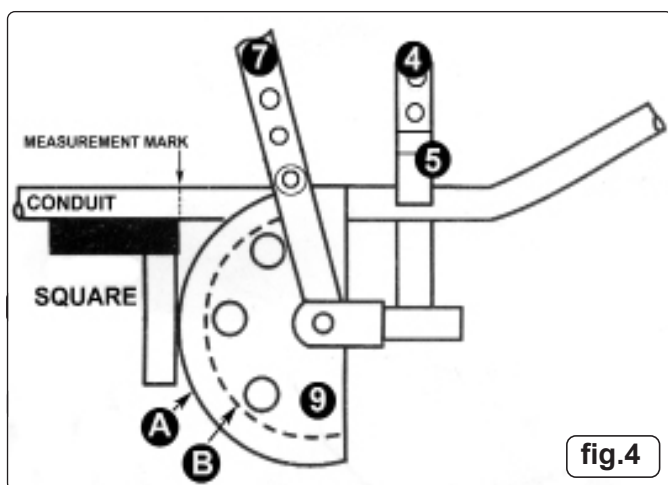

fig.4
5.2.3. Place a square or a rule against the mark on the conduit and slide the conduit along until the square touches the outside edge of the former (9) (fig.4.A). The conduit is now in the correct position for bending.
5.3.3. Place a square or a rule against the mark on the conduit and slide the conduit along until the square touches the inside edge of the former (9) (fig.4.B). The conduit is now in the correct position for bending.
5.4.1. If the required measurement is from the outside to the outside of the bends, mark off from the outside of the first bend and square up with the outside (fig.4.A) of the former (9). If the measurement is from the outside to the inside of the bends (centre to centre) square up with the inside of the former (fig 4.B).